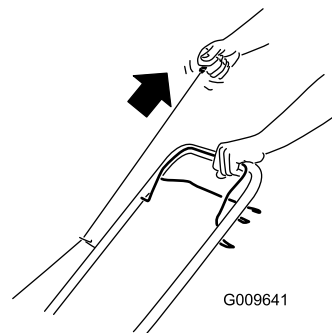

Figure 11
2. Pull the recoil start handle (Figure 11).
Note: When you pull the recoil start handle, pull it lightly until you feel resistance, then pull it sharply (Figure 11). Allow the rope to return to the handle slowly.